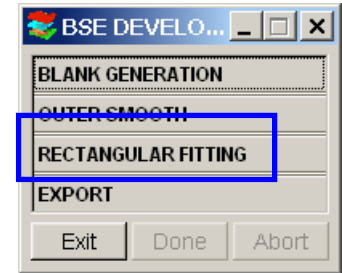

Figure 1.16
- d) Select **RECTANGULAR FITTING** (Figure 1.16)